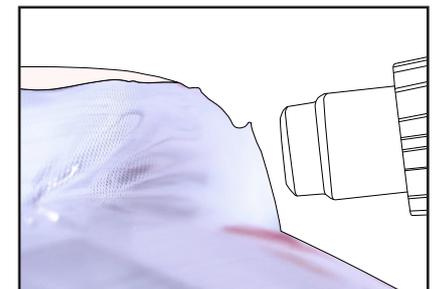

Figure 18
- › As for the bottom, heat the top of the film to 30 °C - 40 °C (86 °F - 104 °F) using the heat gun to reduce the tensions created during the first steps of film application. (FIG. 18)